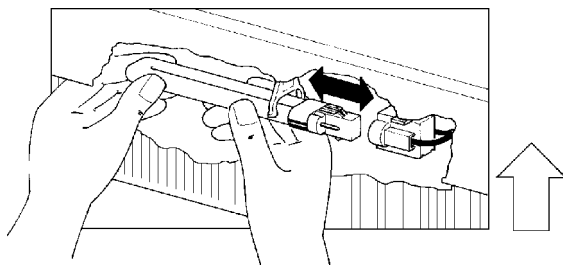

Fig. 49.3
- Hold the lamp in the correct mounting position as shown (Fig. 49.3) and push it to the right until it engages in the holder.